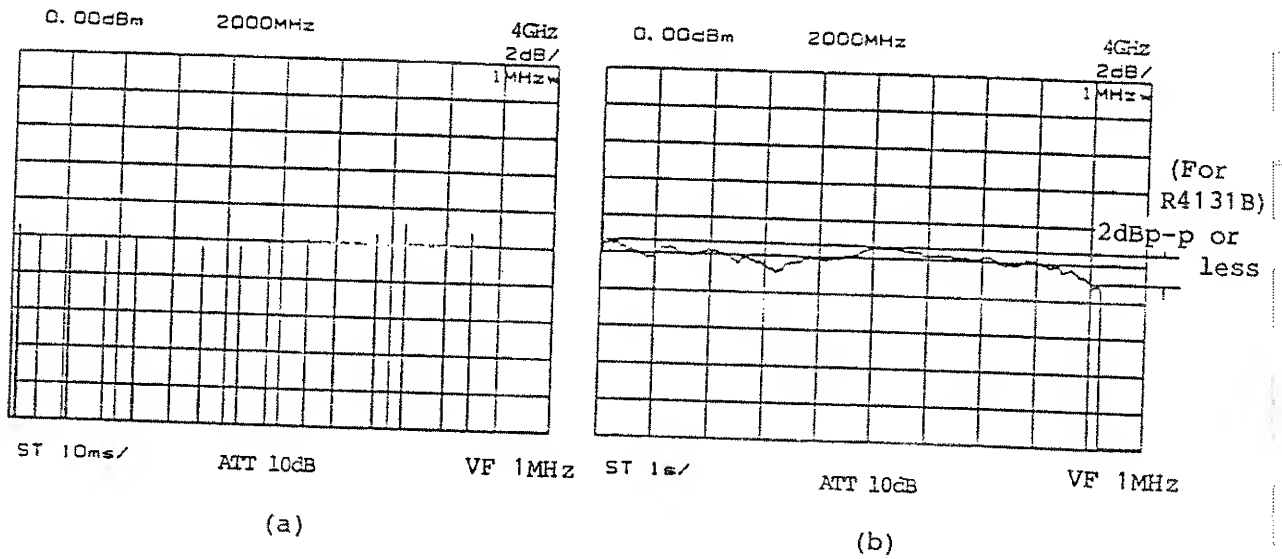

Figure 11-20 Frequency Response (100 kHz - 3.6 GHz)
- ⑦ Set the sweep time/division to 1 s, and the frequency characteristics will be displayed on the display screen. (See Figure 11-20 (b).) Make sure that the ripple current is within the range of the specifications.